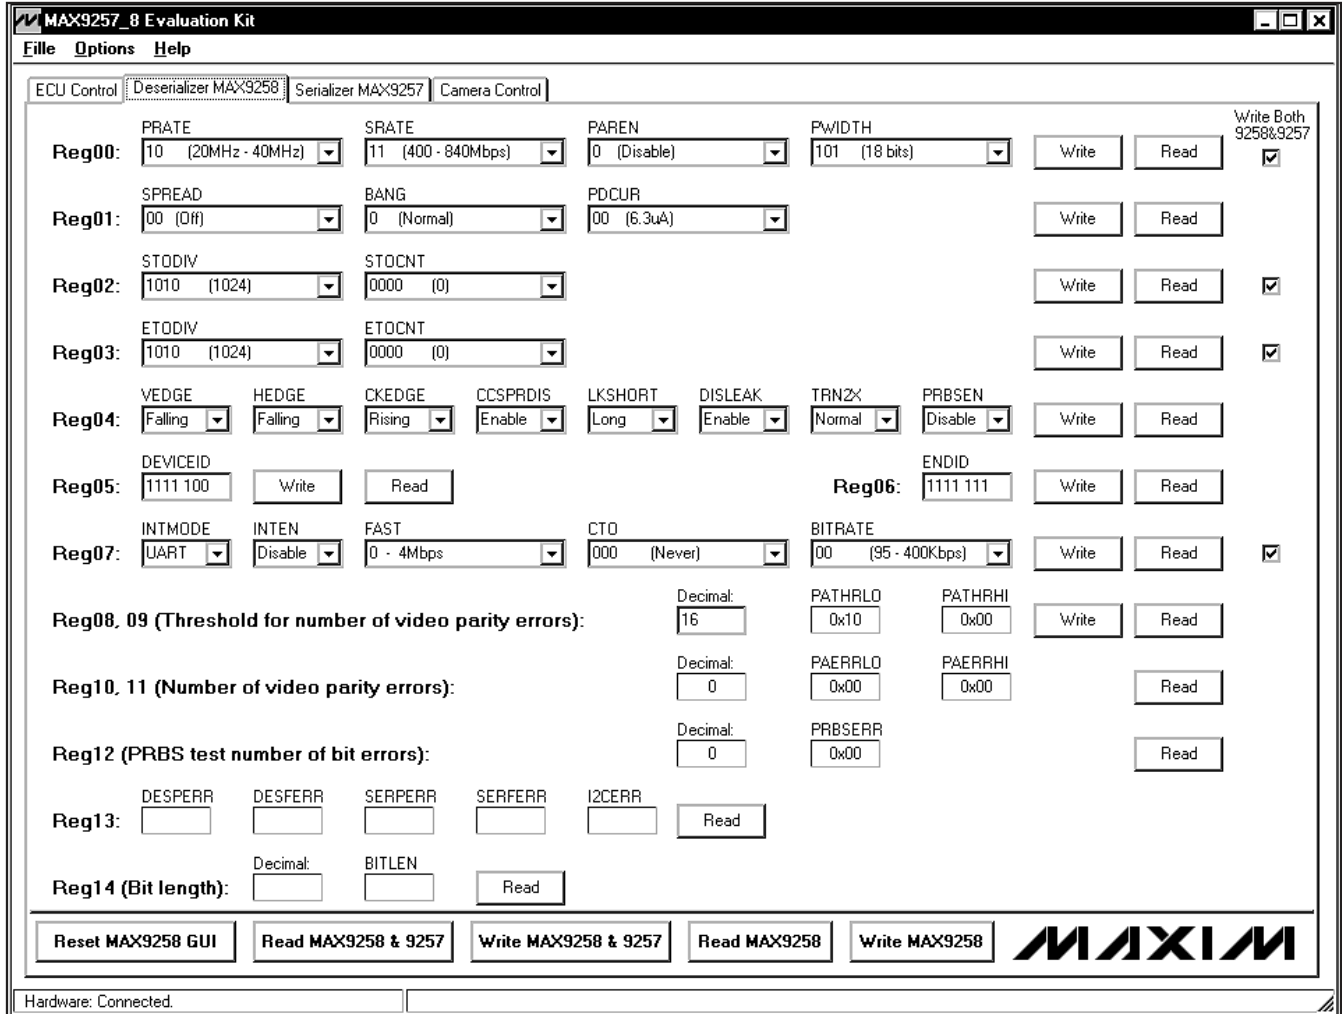

Figure 4. MAX9257/MAX9258 Evaluation Kit Software—Deserializer MAX9258 Tab
- 17) Click on the **Deserializer MAX9258** tab to move to the **Deserializer MAX9258** tab sheet (Figure 4).
On the **Deserializer MAX9258** tab sheet (Figure 4), the ECU can write or read all registers on the MAX9258 by pressing the **Write** or **Read** buttons on the right of each register. Refer to the MAX9257/MAX9258 IC data sheet for the definition of each register.
- 3) Navigate to the **Deserializer MAX9258** tab sheet (Figure 4). Press the **Read MAX9258 & 9257** button to refresh the current register values on the GUI.